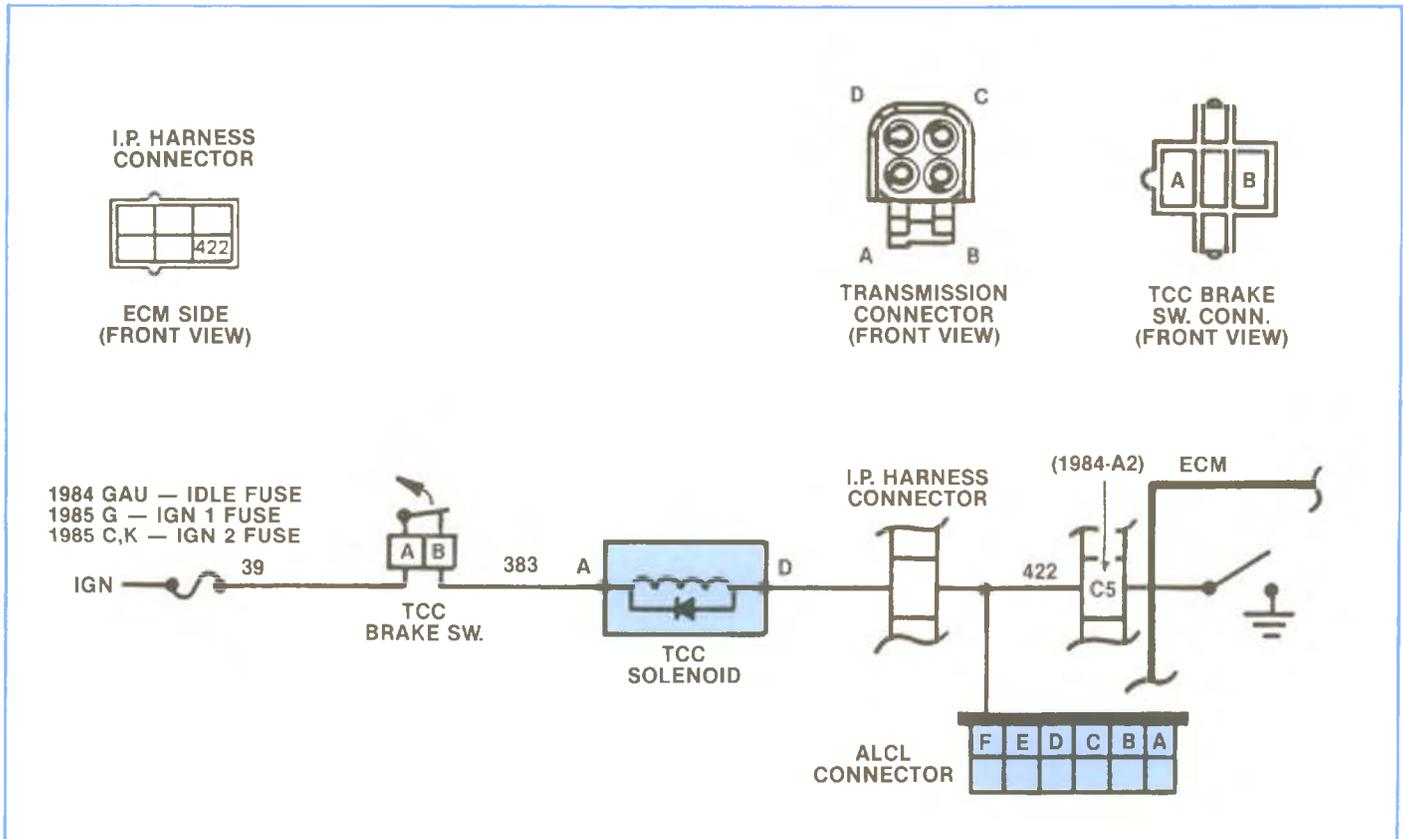

Figure 5-67, Torque Converter Clutch, TCC Circuit.
2. Disconnect TPS connector. Install jumper wires between TPS and harness. Jumpers can be made using terminals P/N 12014836 and 12014837. Three jumpers or their equivalent will be necessary (Figure 5-67).
The purpose of the automatic transmission torque converter clutch feature is to eliminate the power loss of the torque converter stage when the vehicle is in a cruise condition (Figure 5-67). This allows the convenience of the automatic transmission and the fuel economy of a manual transmission. The heart of the system is a solenoid located inside the automatic transmission which is controlled by the ECM.